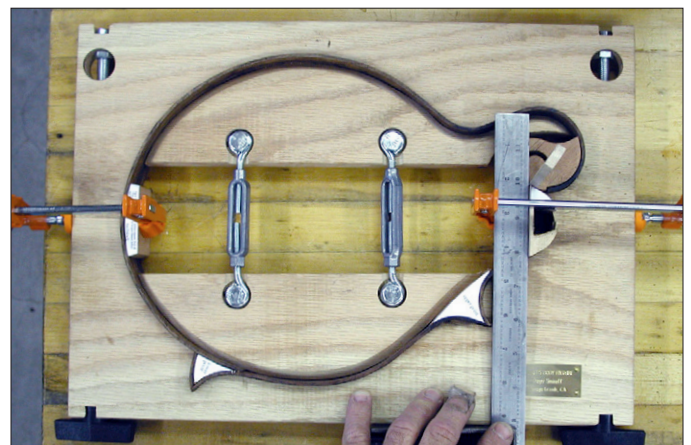

Fig. 2
8) When using a dovetail neck joint (where the dovetail is pre-cut in the headblock), ensure that the back edge of the headblock cap is perpendicular (right angle) to the fixture as shown in Fig. 2.